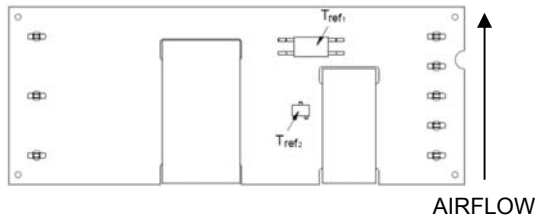

Figure 13. T_{ref1} & T_{ref2} Temperature Measurement Locations for Open Frame Module.
To provide protection under certain fault temperature conditions, the unit is equipped with a thermal shutdown circuit. The unit will shutdown if any of the thermal reference points identified in Figures 13 & 14, exceed the stated trip points (typical). However, the thermal shutdown is not intended as a guarantee that the unit will survive temperatures beyond its rating. The module can be restarted by cycling the dc input power for at least one second or by toggling the remote on/off signal for at least one second. If the auto-restart option (4) is ordered, the module will automatically restart upon cool-down to a safe temperature.
The thermal reference points, T_{ref1} and T_{ref2} , used in the specifications for open frame modules are shown in Figure 13. For reliable operation these temperatures should not exceed 110°C and 125 °C respectively.